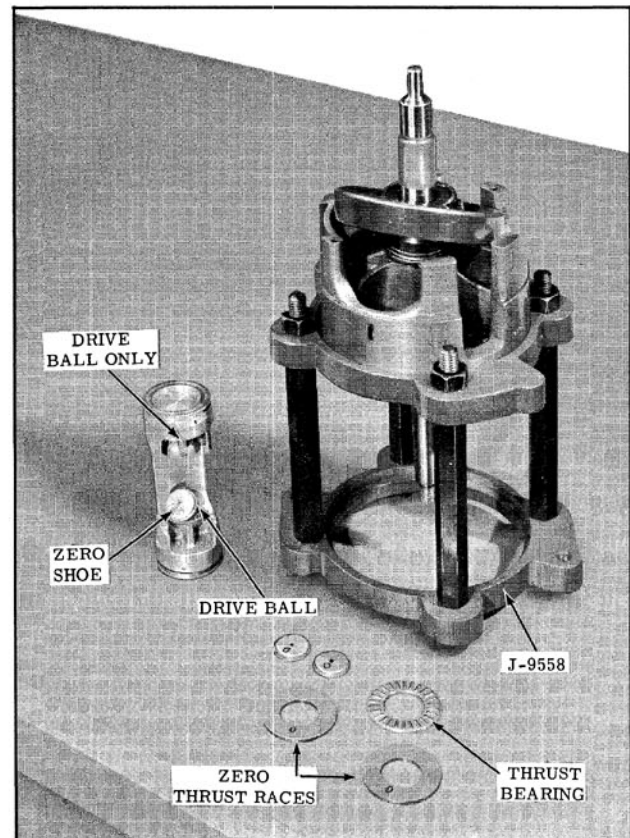

Fig. 14-117 Assembling Parts for Clearance Check
2. Position a zero thrust race, a thrust bearing and another zero thrust race over the front and rear ends of the compressor shaft. Retain bearings and thrust washers with clean petrolatum. Install shaft into front cylinder, threaded end of shaft down. (Fig. 14-117)